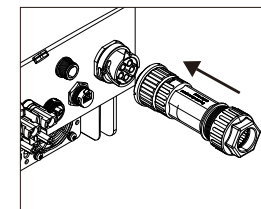

Figure 5.24 AC connector to inverter
C) Connect AC connector with inverter(see figure 5.24), until hearing a slight clicking sound indicates connection succeed.